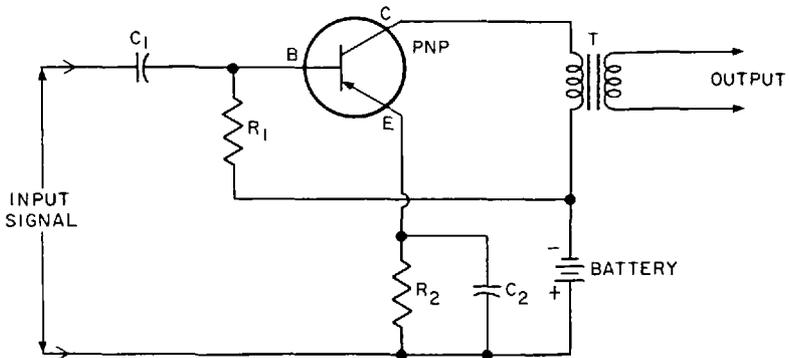
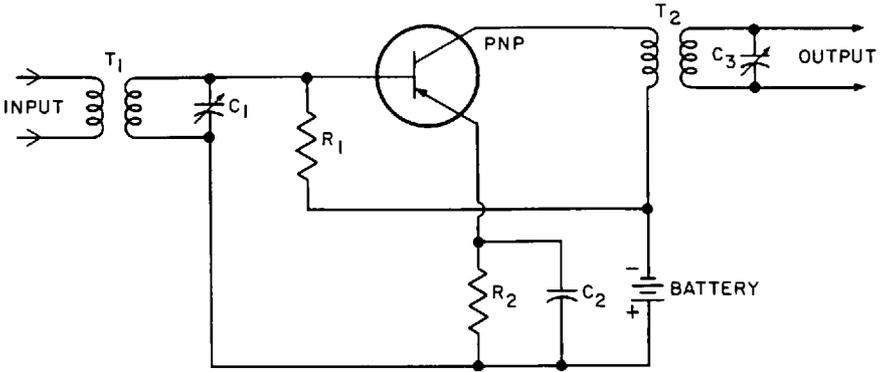

Fig. 28-12. Circuit of practical a-f transistor amplifier.
Fig. 28-15. Basic circuit of a transistorized stage of tuned r-f amplification.
**Practical A-F Transistor Amplifier.** The circuit of a practical a-f amplifier employing a PNP transistor in a common-emitter configuration is shown in Figure 28-12. The input signal is applied to the base of the transistor through coupling capacitor  $C_1$ . Note that only one battery is employed. The emitter is positive relative to the base, hence the emitter junction is forward-biased. At the same time, the collector is negative with respect to the base since the resistance of  $R_1$  is greater than the resistance of the primary winding of the coupling transformer  $T$ . Thus the collector junction is reversed-biased and the biasing requirements of the transistor are met.
**R-F Transistor Amplifier.** The basic circuit of a transistorized stage of tuned r-f amplification is illustrated in Figure 28-15. Transformer  $T_1$  is the input transformer and  $T_2$  is the output transformer. The other components perform the same functions as similar components in the a-f amplifier illustrated in Figure 28-12. If the amplifier is to be employed as an i-f stage, i-f transformers are substituted for the tuned r-f transformers.